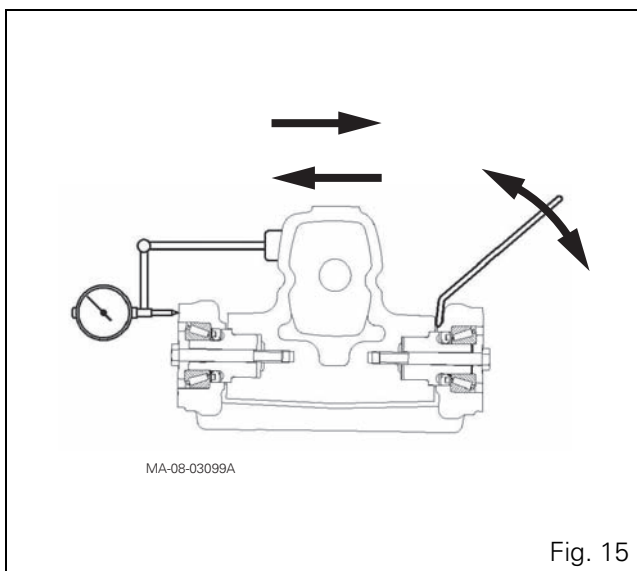

Fig. 15
- 14.** Place a dial gauge with a magnetic stand on the axle beam and move the dial gauge feeler pin until it comes into contact with the face of the lower arm, then reset the dial gauge to zero. (Fig. 15).
Install a lever between the arm and the axle beam, push in the arm at each side and measure the clearance using a dial gauge. Repeat this several times to obtain an average value X (Fig. 15).